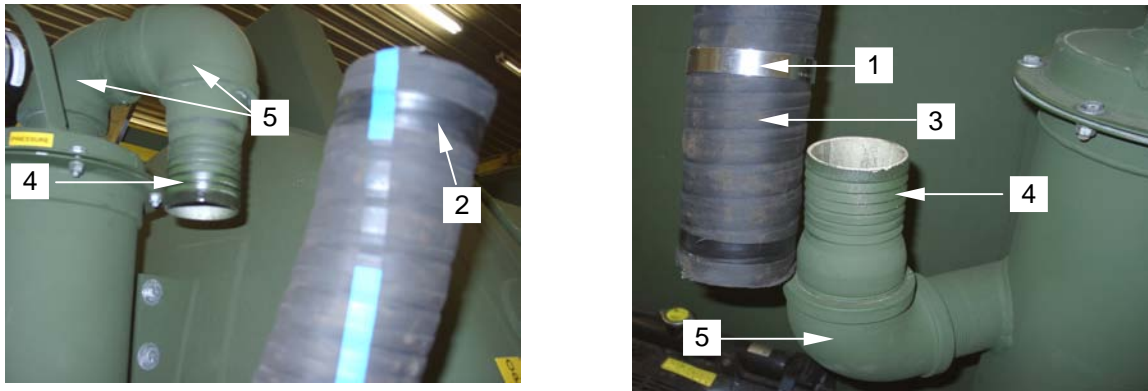

Figure 1. Removing Hoses from Moisture Trap
1. Loosen the hose clamps (**figure 1, item 1**) on the pump air hose (**figure 1, item 2**) and upper air hose (**figure 1, item 3**) and remove the hoses from the nipples (**figure 1, item 4**). Retain hose clamps on the hoses.
2. Using a pipe wrench remove the nipples (**figure 1, item 4**) and elbow fittings (**figure 1, item 5**) from the moisture trap. (The nipples and fittings may also be removed as an assembly, as required.)